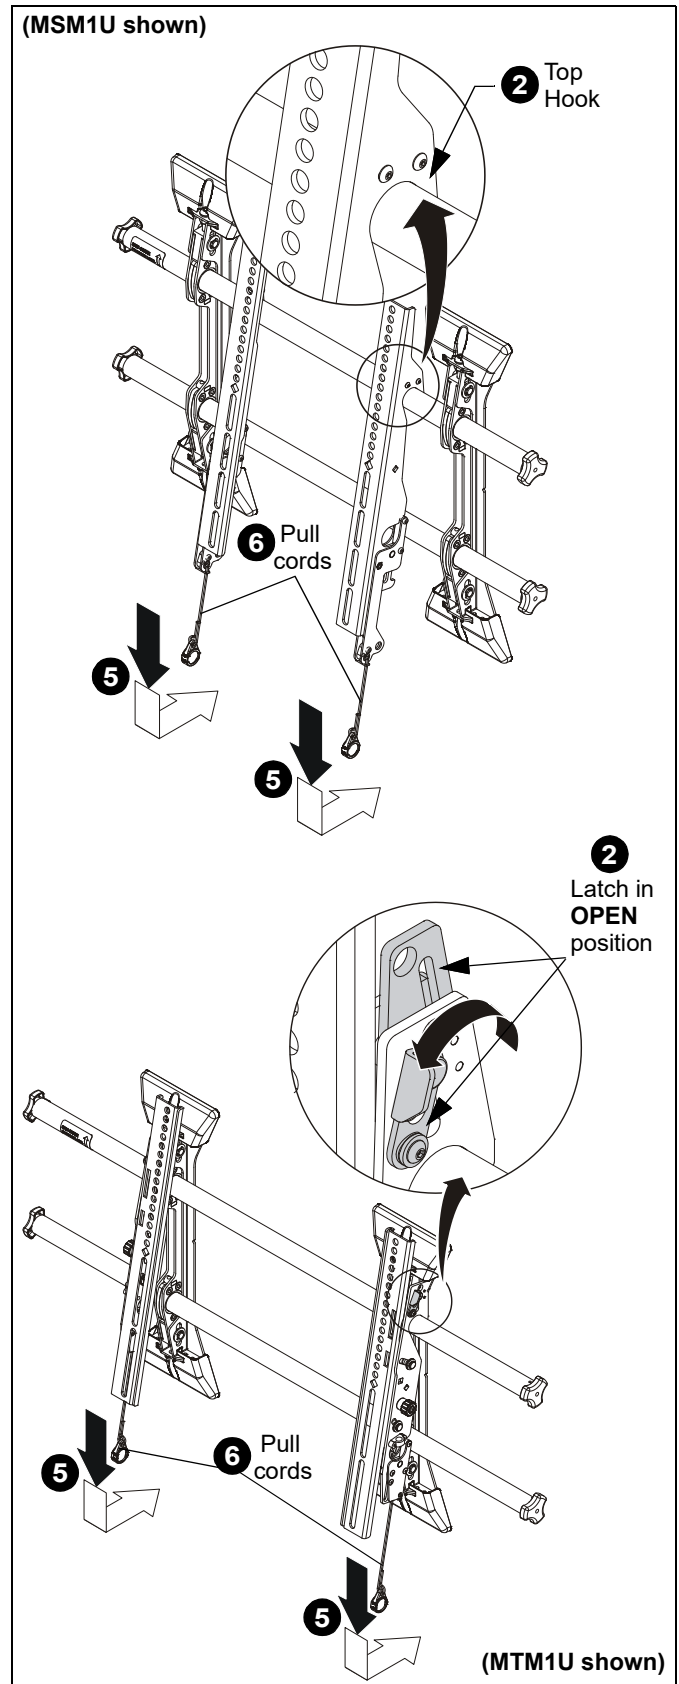

Figure 16
- **MSM1U / LSM1U:** Hang top hook of interface brackets (Y and Z) onto the top rail of the mount (CC). (See Figure 16)
- **MTM1U / LTM1U:** Move latch on top of interface bracket to OPEN position and hang top hook of interface brackets (AA and BB) onto the top rail of the mount (CC). (See Figure 16)
5. Pull downward on the pull cords and swing inward toward wall, latching interface brackets to lower rail and fastening bottom of screen to the mount. (See Figure 16)
6. Attach end of pull cord (a magnet) to mount so it does not extend beyond bottom of screen. (See Figure 16)